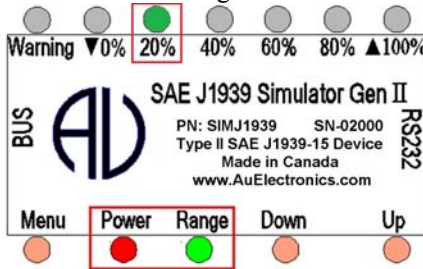

Figure 3-3 Power, Range, 20% LED on, indicates data ranges from 21% to 39%
- If keep pressing **Up** button, the control step value will keep increasing. The 20% LED will then be always on, as shown in Figure 3-3. This indicates a data range from 21- 39%.